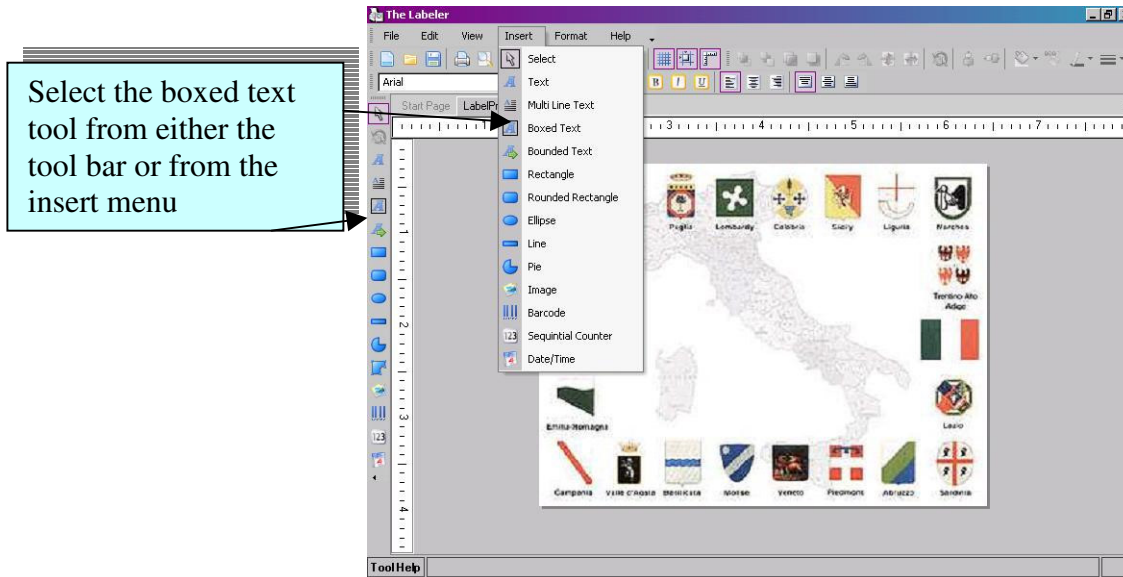

Figure 3.4.3.1: Inserting Boxed Text
1. Click on the boxed text tool  located on the tool bar, or you can find it in the insert menu (see Figure 3.4.3.1).
- Click on the label where you want to insert the text (see Figure 3.4.3.2).